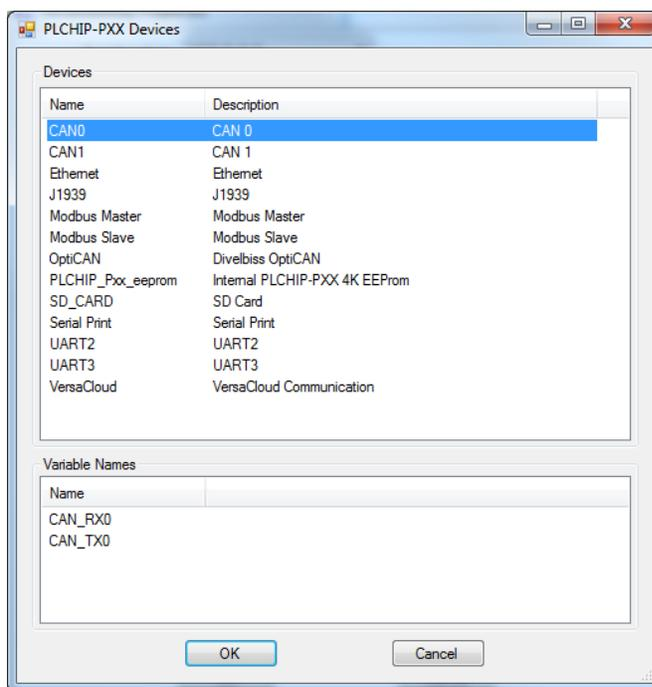

Figure 2-4 - Install CAN0 Device
4. Locate **CAN0** in the *Devices* pane. Click to select (highlight) CAN0. Refer to Figure 2-4. Click **OK**.